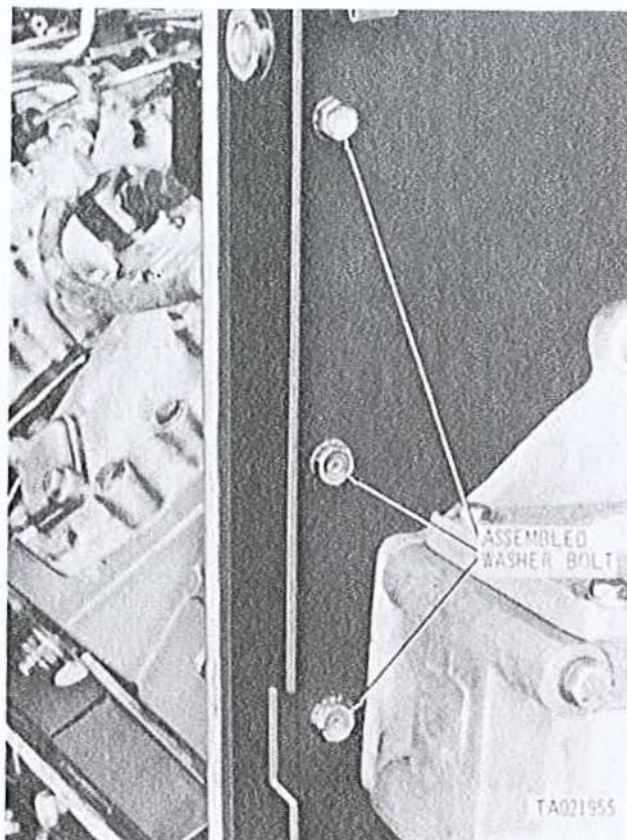

Figure 3-17. Disconnecting or connecting left front oil cooler support frame.
(1) Remove three assembled washer bolts (fig. 3-17) securing front shroud to oil cooler support frame.